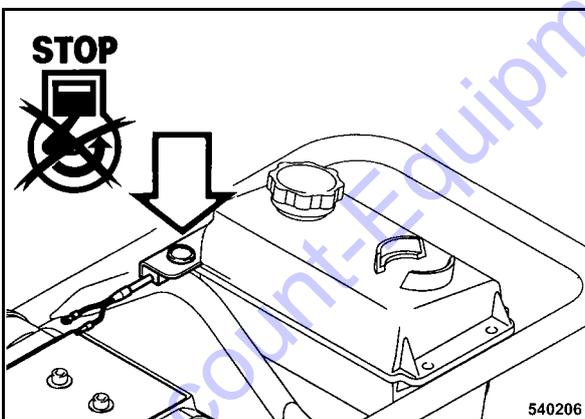

Fig. 25
- Press the stop switch (push button) (Fig. 25).